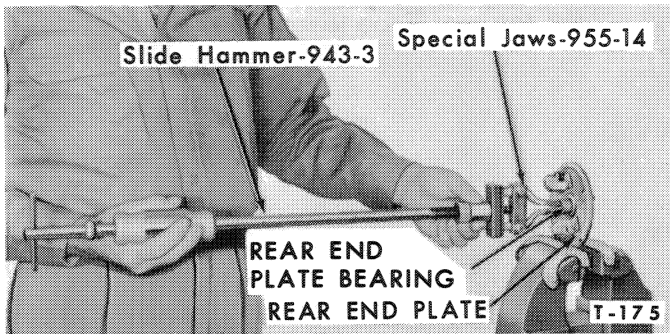

Figure 18—Removing Rear End Plate Bearing
3. To remove the rear end plate bearing, install the end plate in a vise equipped with brass jaws. Install FT-48 Puller Attachment 955-14 as shown in Figure 18. Pull the bearing from the end plate.